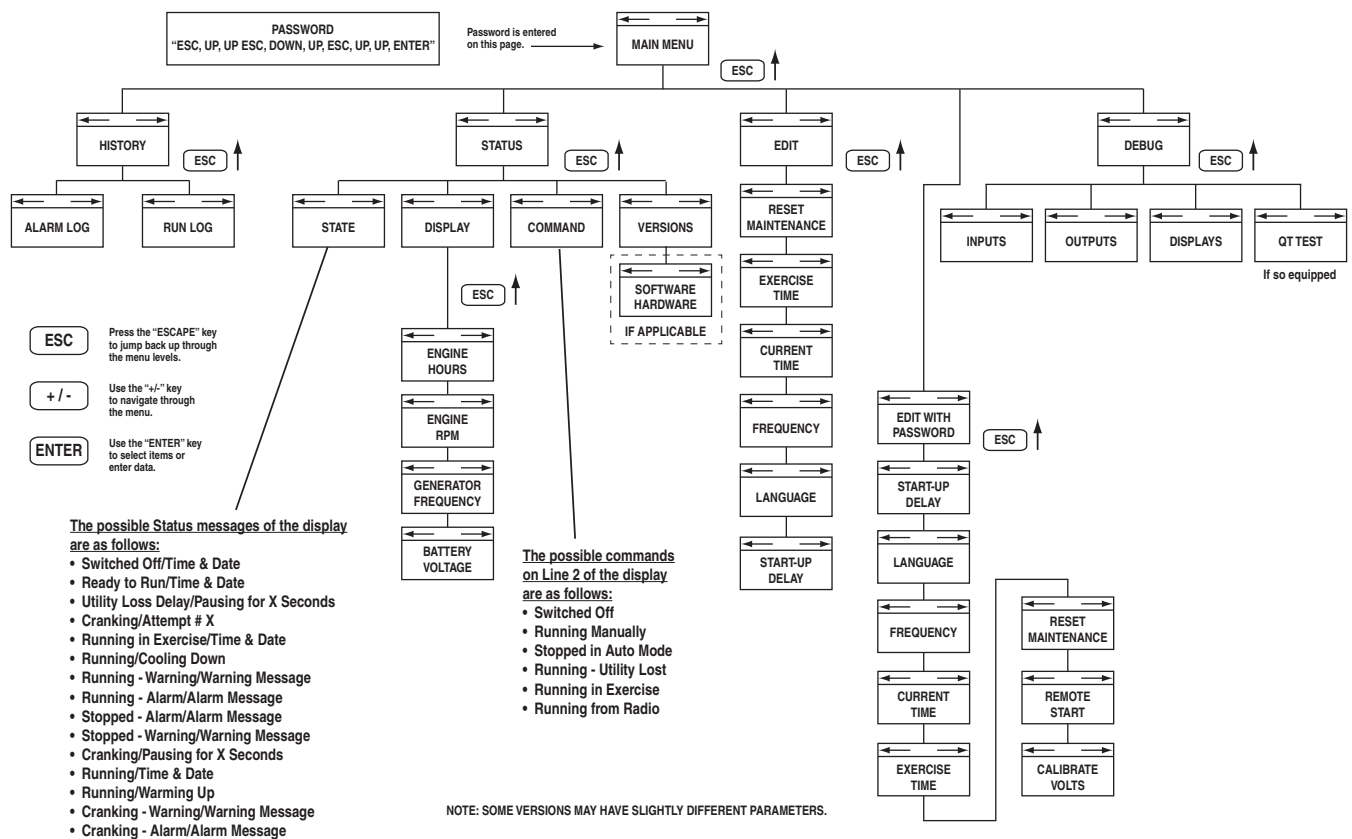

Figure 37. Menu System Diagram
To get to the Main Menu from any other display, press the “Esc” key one or more times. The Main Menu is shown in Figure 27. There are four sub-menus, each with its own set of sub-menus. The menu system diagram is shown in Figure 37.
There are four selection and navigation keys below the display. The “Escape” key will cause the display to move back toward the main menu. The “Enter” key is used to activate a menu or accept a value when it is changed. The UP and DOWN triangle keys perform a number of different functions depending on which screen of a menu you are in: with them you can move the flashing cursor to the next choice (the menu to be selected will flash on and off); they will act as the left and right arrows to move between the various Edit menus; In an Edit menu they will increase or decrease a value or change the choice (i.e. from Yes to No). See Figure 37 for the Basic Menu System Diagram.
- State will display the current state of the panel along with the current date, time and day. See Figure 37 for the complete list of possible Status messages which will be displayed.
- Command will display the current command. See Figure 37 for the list of possible commands which will be displayed.